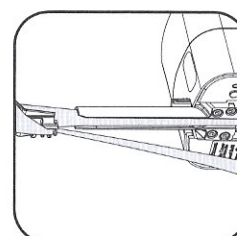

Figure 6
7. Place sleeve (that is between the Refill and the Plastic Handle) into the opening (channel) of the Metal Handle. (Fig. 6)